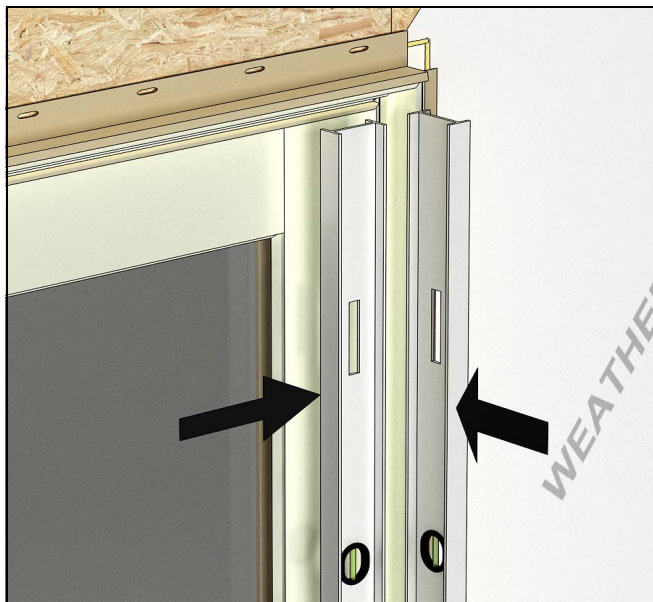

Figure 12
4. Before the sealant is allowed to set up, ensure the jambs are straight and plumb (interior/exterior and left/right). The sill must be level and straight. See Figure 12.